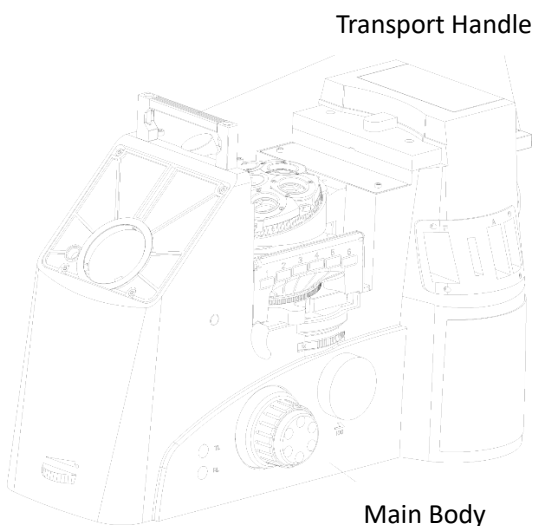

Figure 2
(1) Remove all packaging and check to confirm that it is consistent with the product you purchased.
(2) According to the prompt in Figure 2, remove the transport handle for subsequent microscope operations.